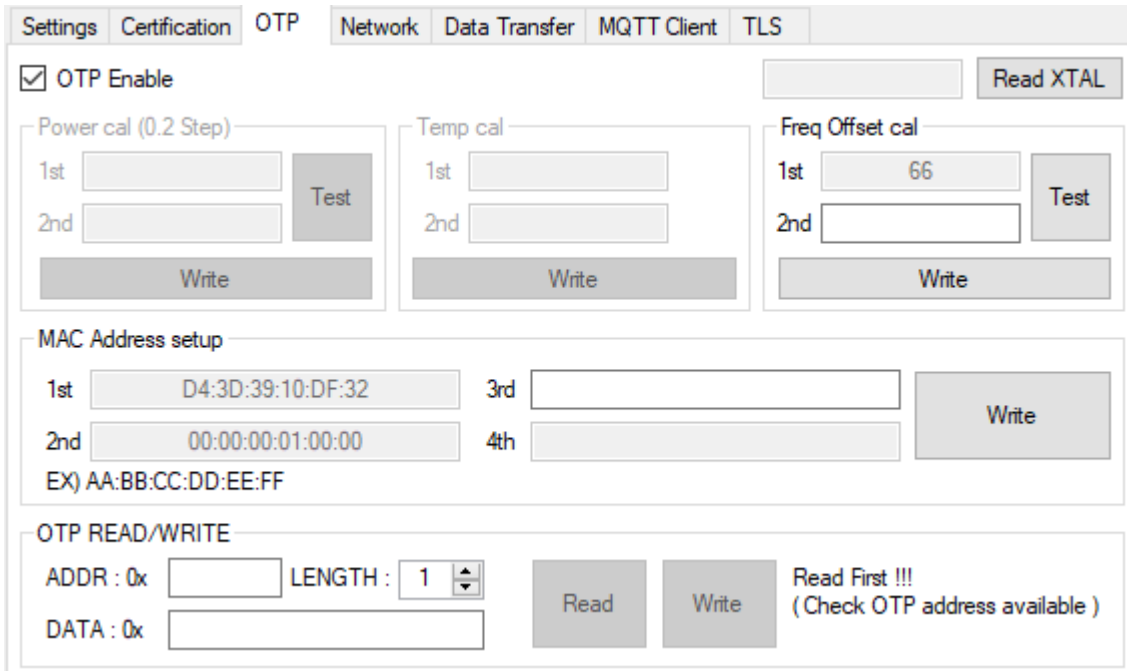

Figure 38: OTP Mode
- The current OTP data is as shown in Figure 38